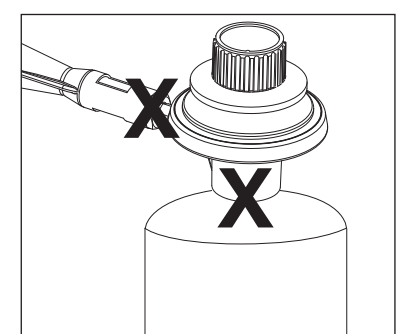

Figure 6
7. If igniter does not light burner, use a lit match to light burner manually. Access the burner through the hole in bottom bowl or side as indicated (Figure 6). Turn the regulator/control knob to 🔥 (LOW) and position the lit match near side of the burner.